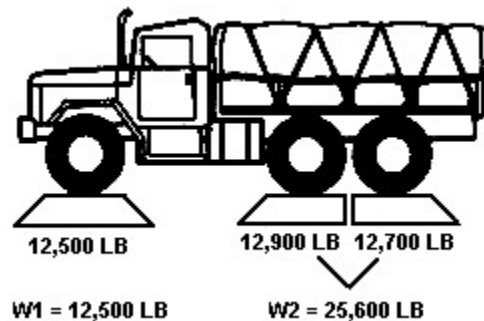

Figure 3-16
2. Weigh axles (see Figure 3-16).